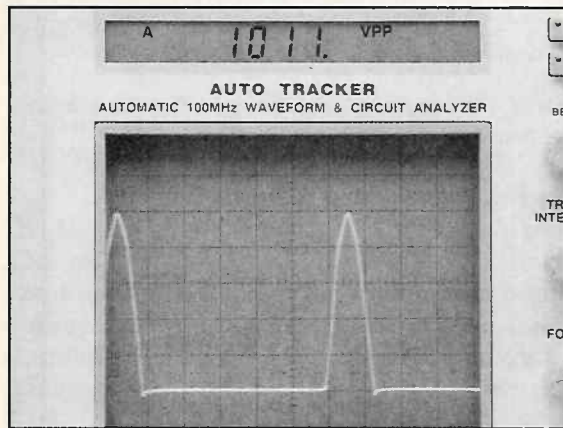
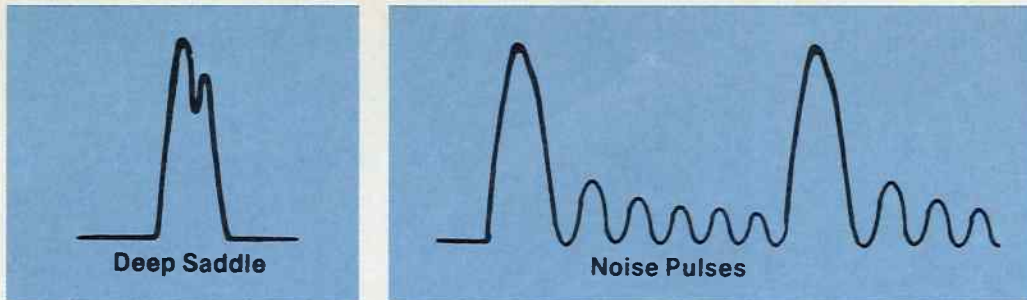

Fig. 1: Only the SC3100 "AUTO TRACKER" lets you safely view the horizontal output pulse.
Fig. 3: The output waveform should be free of extra ringing pulses and should not include a deep saddle.
**Waveshape** – The horizontal output waveform should look like Fig. 1. It should be symmetrical, free from extra ringing pulses, and should not contain a deep saddle, as Fig. 3 shows. A deep saddle indicates an excessive load, possibly a shorted turn in the flyback. Extra ringing pulses indicate a cracked core in the flyback, bad damper, or drive signal problems.